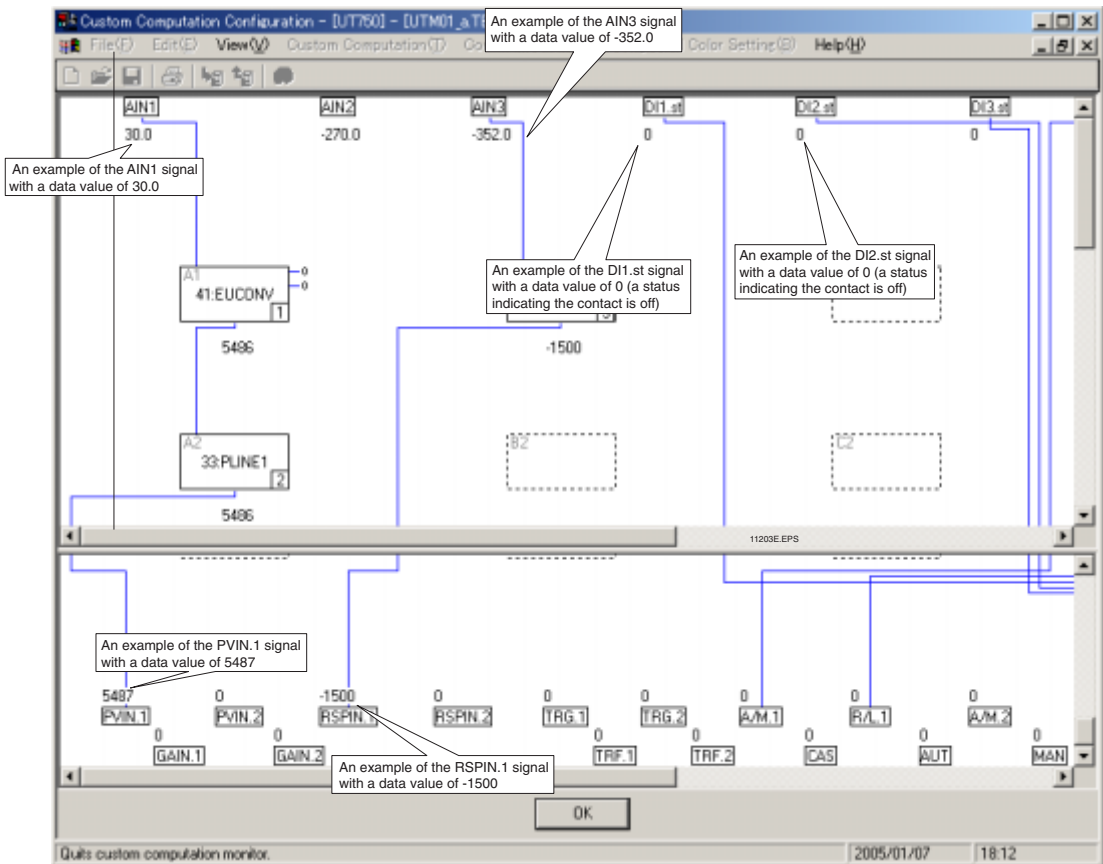
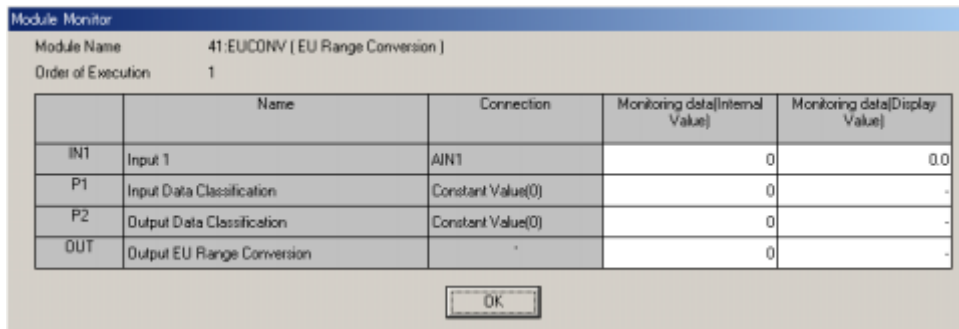

Figure 11.2.2 Example of [Input Block Monitor] View
Figure 11.2.3 Example of [Module Monitor] View
In the [Input Block Monitor] view (Figure 11.2.2), you can monitor the signals listed in the following table.
- (2) Match the communication conditions of the controller with those of the personal computer, and then click the <OK> button.
- (3) The [Input Block Monitor] view (Figure 11.2.2) appears.
In the [Module Monitor] view (Figure 11.2.3), you can monitor the signals listed in the following table, module by module.
- (1) Double-click the computation module in the [Input Block Monitor] view (Figure 11.2.2). The [Module Monitor] view (Figure 11.2.3) appears.